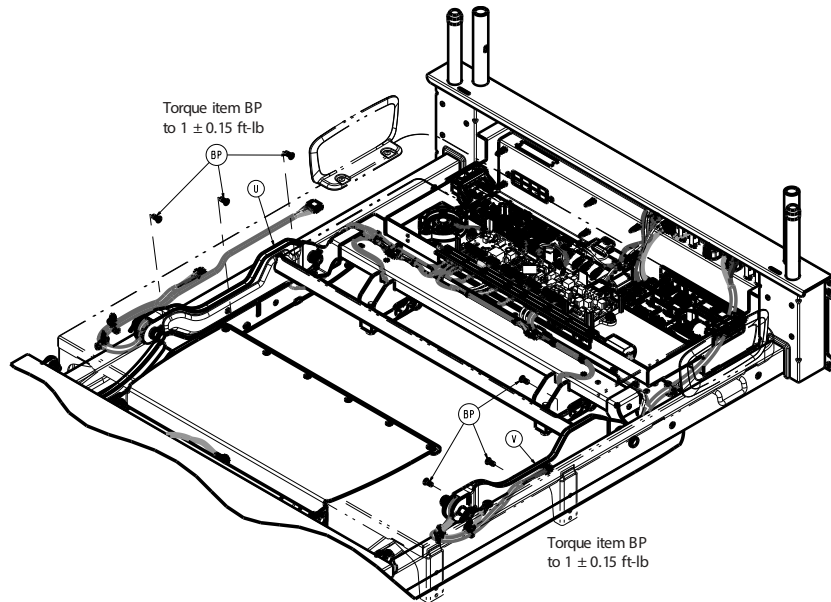

Figure 23 – Removing the cover
20. Using a T15 Torx driver, remove the three screws (BP) that secure the Fowler link cover (V) to the Fowler link (Figure 23). Save the screws.
22. Using a T15 Torx driver, remove the three screws (BP) that secure the Fowler link cover (U) to the Fowler link (Figure 23). Save the screws.